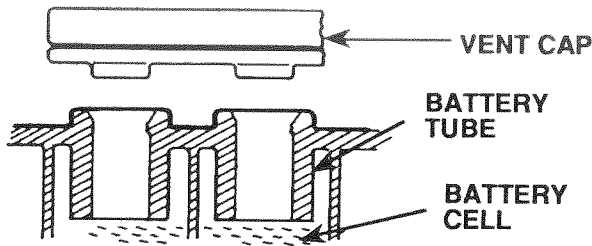

FIGURE 1
- Fill battery with battery acid to bottoms of tubes in cells (Fig 1). DO NOT OVERFILL. OVERFILLING WILL RESULT IN DAMAGE TO TRACTOR.